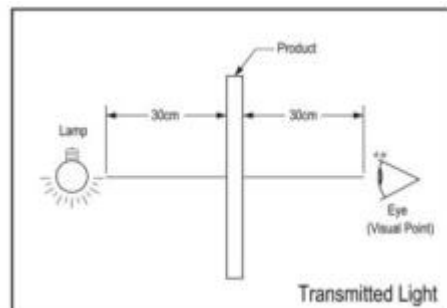
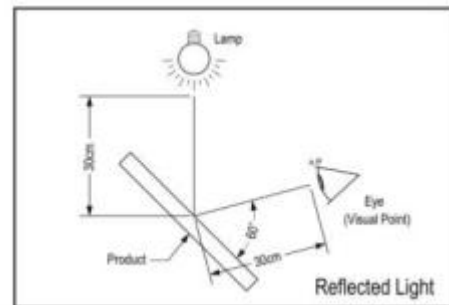

Figure 11-1
Figure 11-2
(1) 18W(1000±500Lux) fluorescent luminant lamp is used for appearance inspection. Detail settings are shown in (Fig 11-1) and (Fig 11-2).
[(1) 檢測使用之燈光為 18W(1000±500Lux)白熾燈光·詳細的擺設方式·請參考圖(Fig11-1), (Fig11-2)]
(2) Minor impurities outside active area are acceptable unless their existence affect electrical functions.